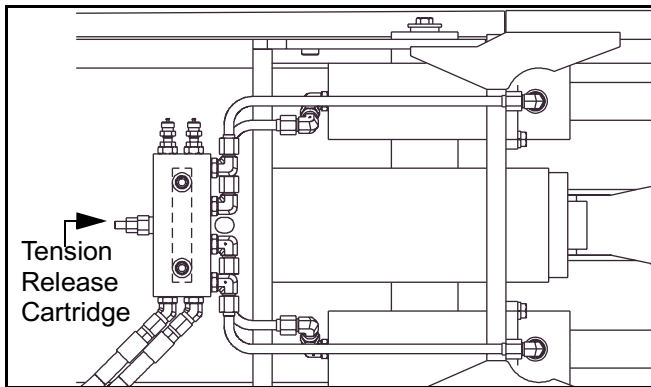

Figure 4 - 34 Release 400 & 500 Series Rubber Track Tension
- 5) Tighten jam nut on tension release valve cartridge (Figure 4 - 34).